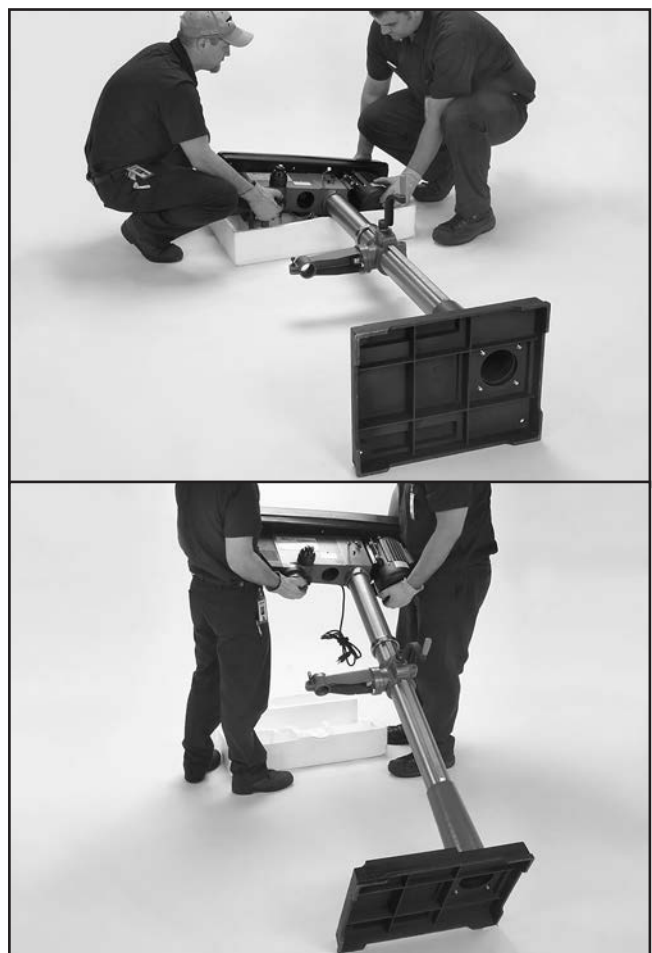

Figure 18. Tilting G7944 drill press upright.
18. Tilt entire assembly up (see **Figure 18**) and carefully position drill press on its base in the fully upright position.